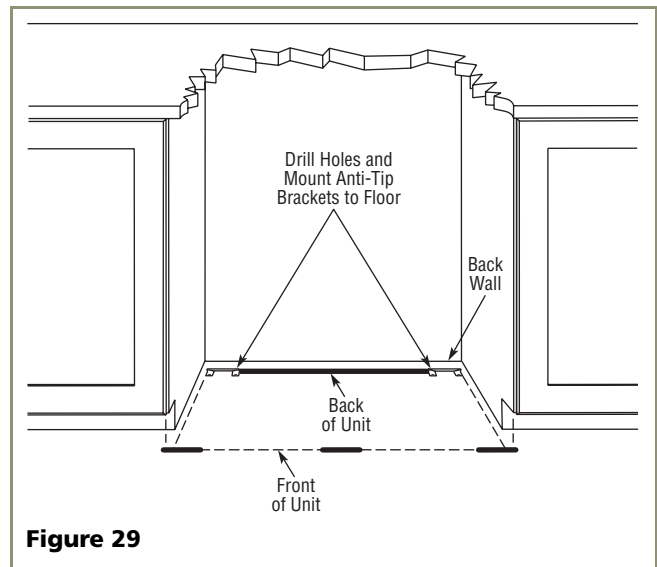

Figure 29
5. Place the Anti-Tip Brackets on the floor against the line drawn for the outer edge. Mark spots for the screw holes. See **Figure 29**.